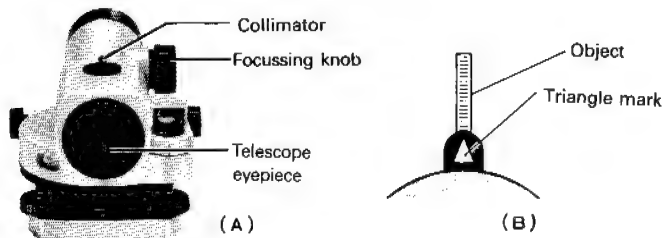

Fig. 7
- ① Sight the telescope at the object looking through the collimator.
- ② Looking into the eyepiece, rotate the focussing knob until the object becomes clearly visible. Make sure that the relation between the object and the cross hair does not change even when you move your eye up or downward. (Fig. 7)
■ If parallax exists in ②, the relation between the object and the cross hair may change. This may cause surveying error.